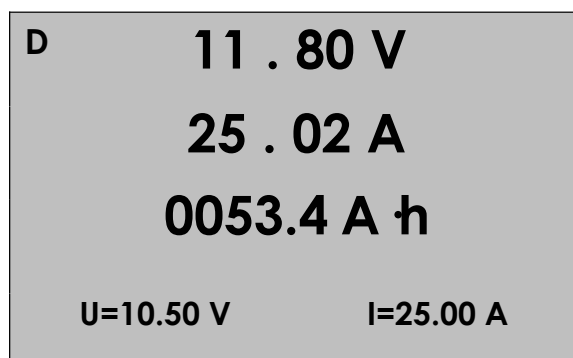

Figure 3.11
3.6.4 After the start, activator will execute procedures described in 3.5.2. The display will look as shown on Figure 3.11.